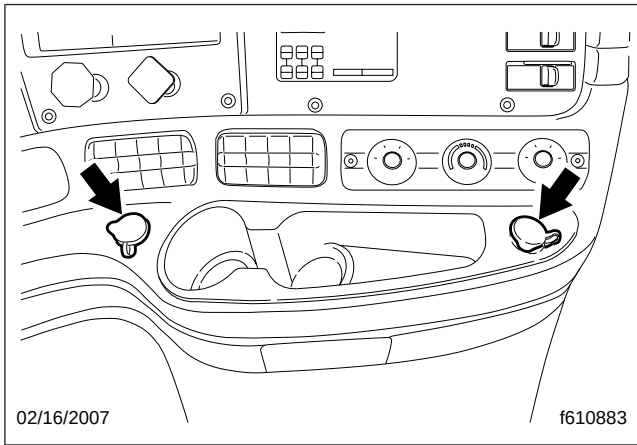

Fig. 4, Power Outlets
11. Disconnect and remove the power outlets; see Fig. 4.
6. Connect the power outlets; see Fig. 4.